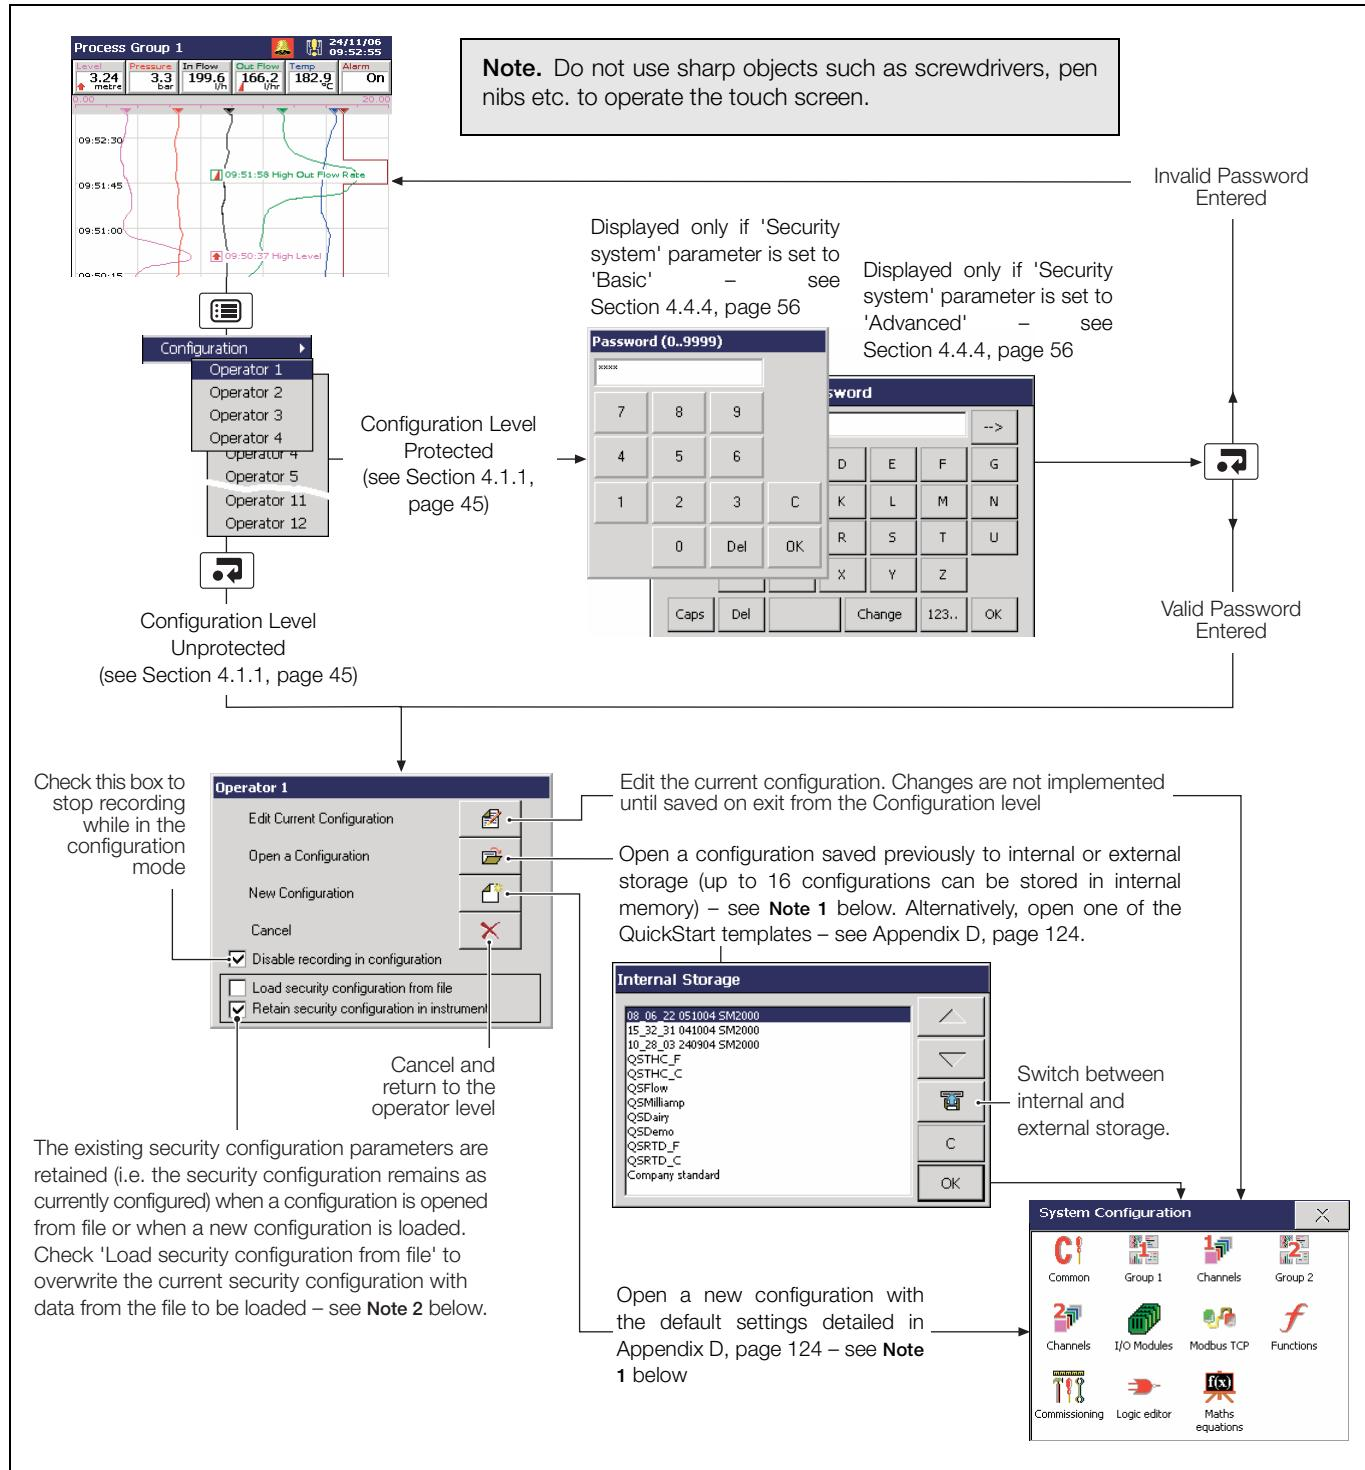

Fig. 4.1 Accessing the Configuration Level
The Configuration level cannot be accessed until the correct password has been entered – see Fig. 4.1, page 46.
4.1.3 Configuration Level Access – Figs. 4.1 and 4.2
- Access the Configuration Level – see Fig. 4.1, page 46.
- Make changes to parameters as detailed in Figs. 4.1 and 4.3.
- The date and time cannot be adjusted if recording is enabled during configuration, i.e. the 'Disable recording in configuration' check box is **not** ticked on entry to the Configuration level – see Fig. 4.1, page 46.